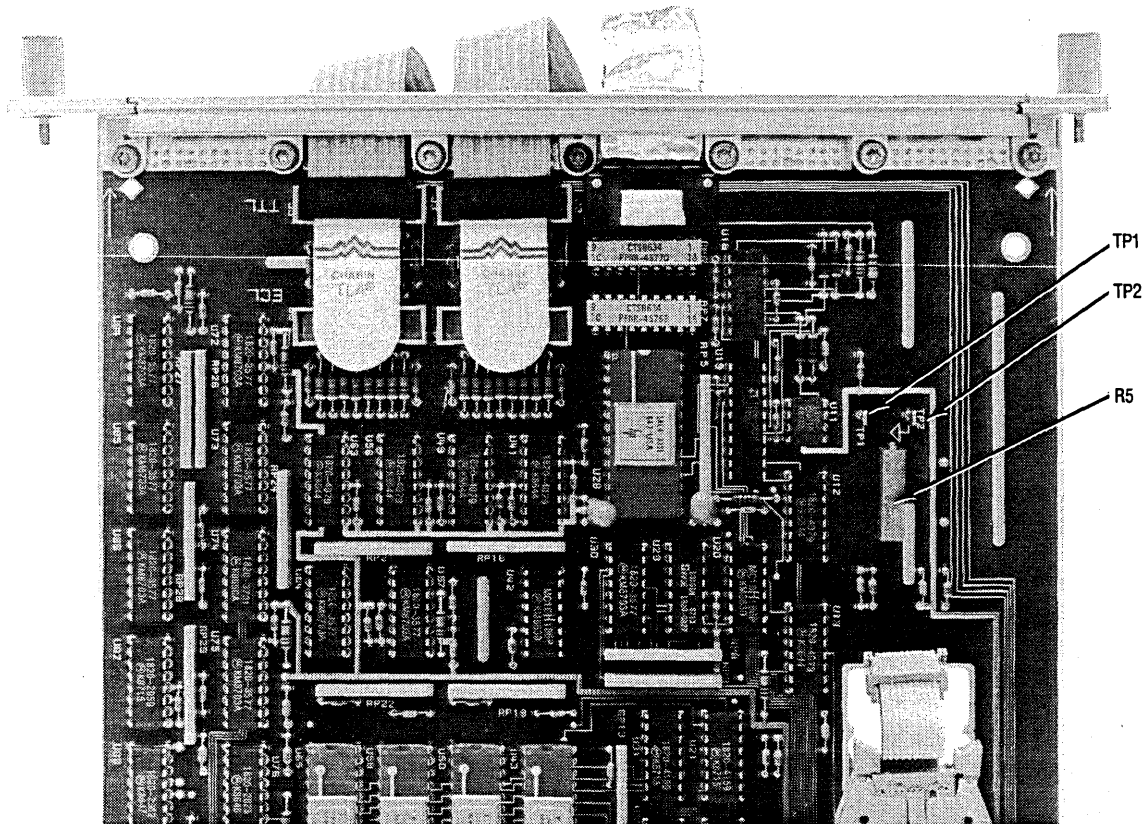

Figure 4-3. Adjustment Pot Location
- a. Connect the positive lead from the multimeter to TP1 and the negative lead to TP2. For the location of the test points and the adjustable resistor, refer to figure 4-3.